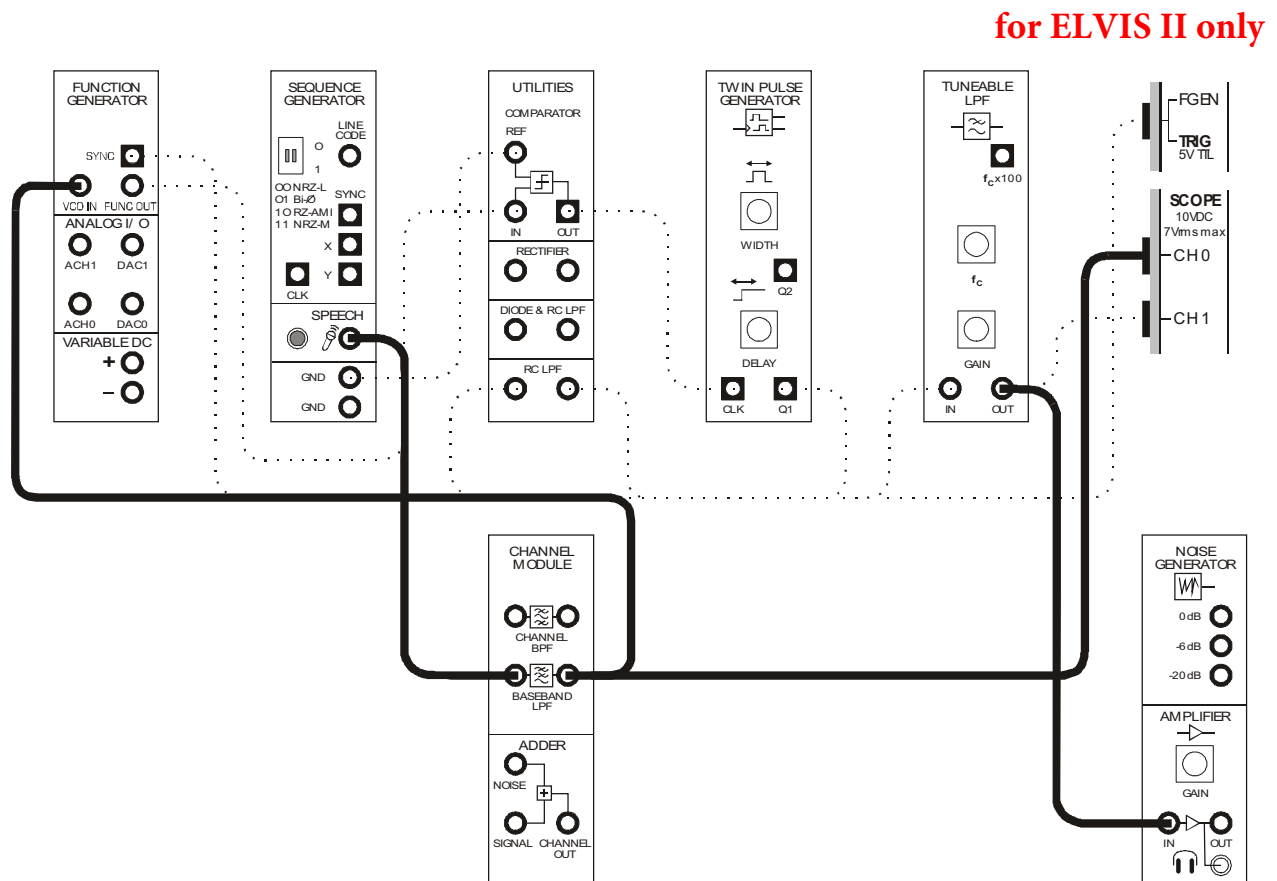

Figure 16
47. Modify the set-up as shown in Figure 16 below.